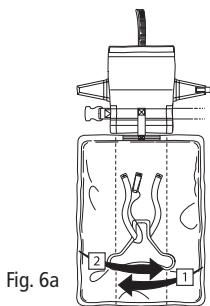

Fig. 6a
- 1) Lay the bladder and pouch out on a flat surface with the bladder's inflator and oral tube facing the flat surface (Fig.6a).
- 2) Fold the bladder into thirds using the dotted lines printed on the bladder. Start with Fold #1, then Fold #2. Ensure the tie tapes and whistle are folded in (Fig.6a).